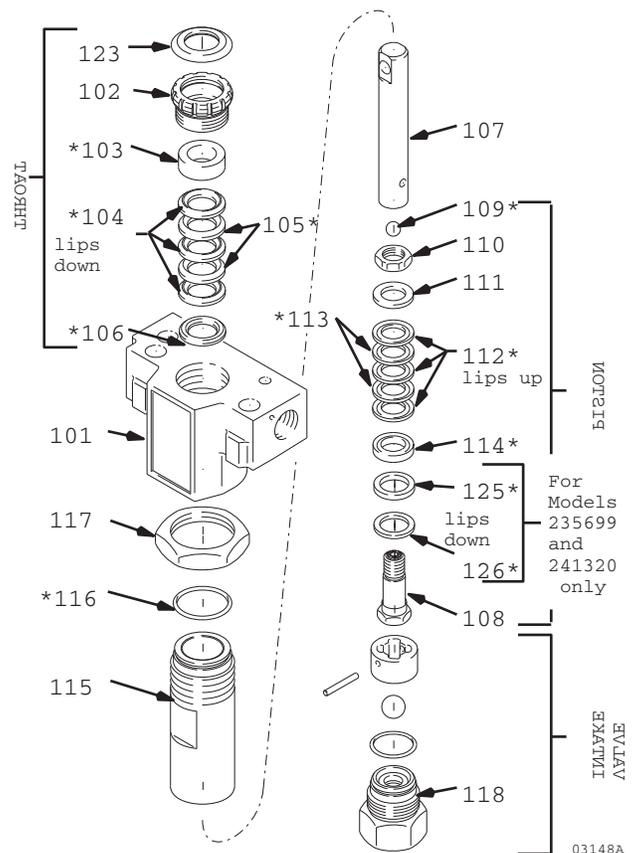
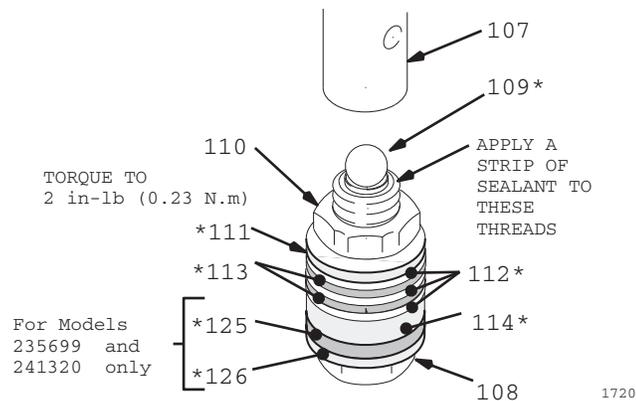

FIG. 3
FIG. 4
## Disassembling the Pump (FIG. 3)
**NOTE 1:** Alternate plastic and leather packings. See Fig 3. The lips of the throat V-packings face down. The lips of the piston V-packings face up. Incorrect installation damages the packings and causes pump leaking.
1. Check the outside of the piston rod (107) and the inside of the cylinder (115) for wear. Replace worn parts to ensure a good seal with the new packings.
2. Stack these parts onto the piston valve (108) one at a time: **Models 235699 and 241320 only:** the backup washer (126\*) and u-cup (125\*), then **All Models:** the female gland (114\*), alternately three plastic (112\*) with two leather packings (113\*), and the male gland (111\*). See Fig 4.
3. Tighten the nut (110) onto the piston valve (108) to 2 in-lb (0.23 N.m). See Fig 4.
**NOTE 3:** Note the alignment of the piston (108) to the nut (110). Maintain this alignment through Step 8.
5. Place the ball (109\*) on piston valve (108) (Fig 4).